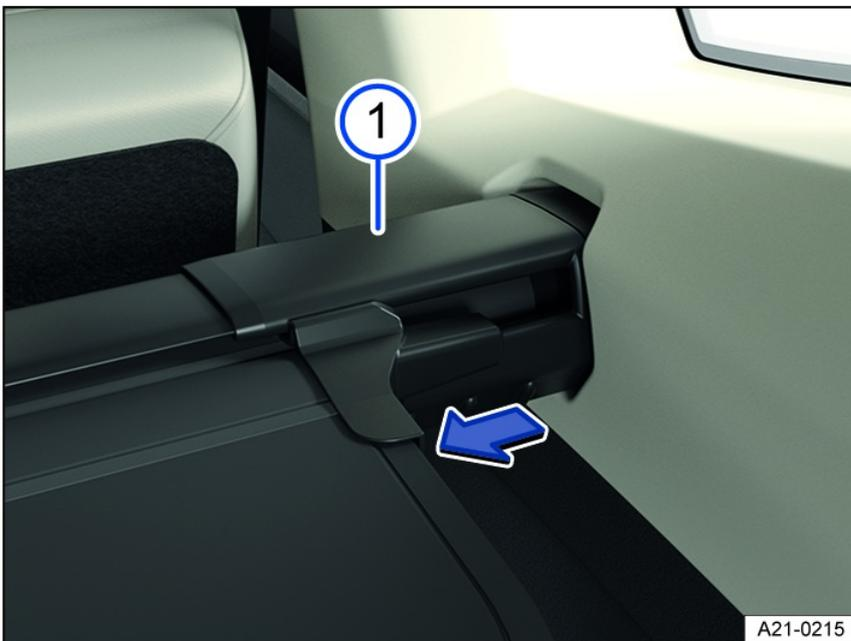

Fig. 163 In the luggage compartment: removing the luggage compartment cover.
2. Press the side panel on the luggage compartment cover *fig. 163* ① in the direction of the arrow and hold it in place.
3. Remove the luggage compartment cover upward and release the side panel *fig. 163* ①.
3. Guide the side panel *fig. 163* ① into the mount on the side trim panel.